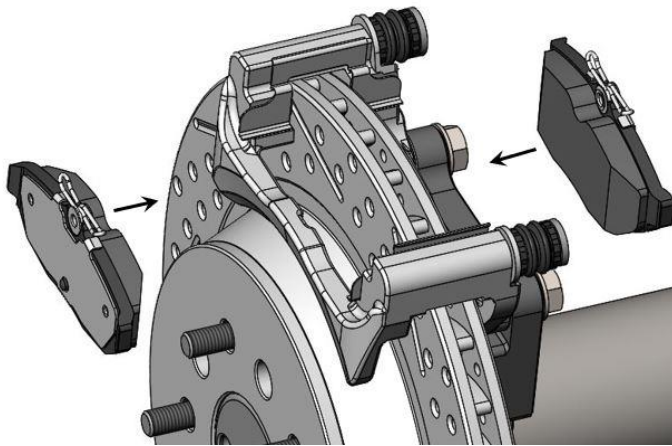
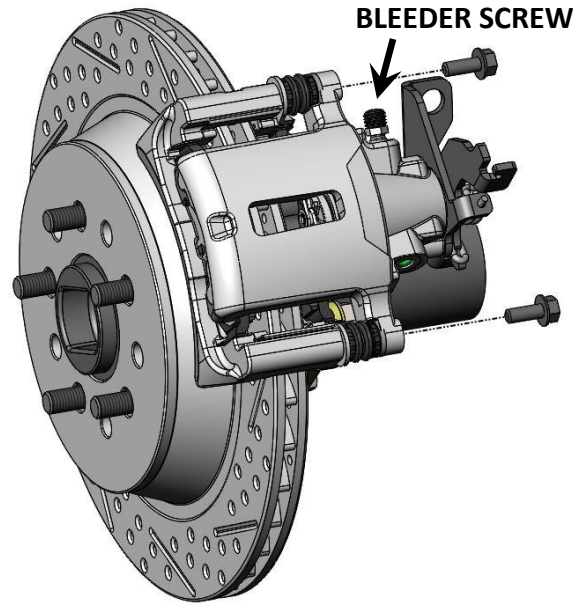

Figure 9a – Brake Pad Installation
Figure 9b - Caliper Installation and Bleeder Screw Orientation
12. With the Abutment Clips installed, Install the pads into the Caliper Anchor Bracket. Refer to Figure 9a on the next page for reference. Once the pads are installed slide the caliper body over the brake pads and Caliper Anchor Bracket. With the caliper in place, re-install the caliper mounting bolts between the caliper and the bracket. Torque the bolts to 30 lb/ft. **IMPORTANT: Make sure that the bleeder screw is pointing upward. See Figure 9b on the next page for reference on installing the caliper.**